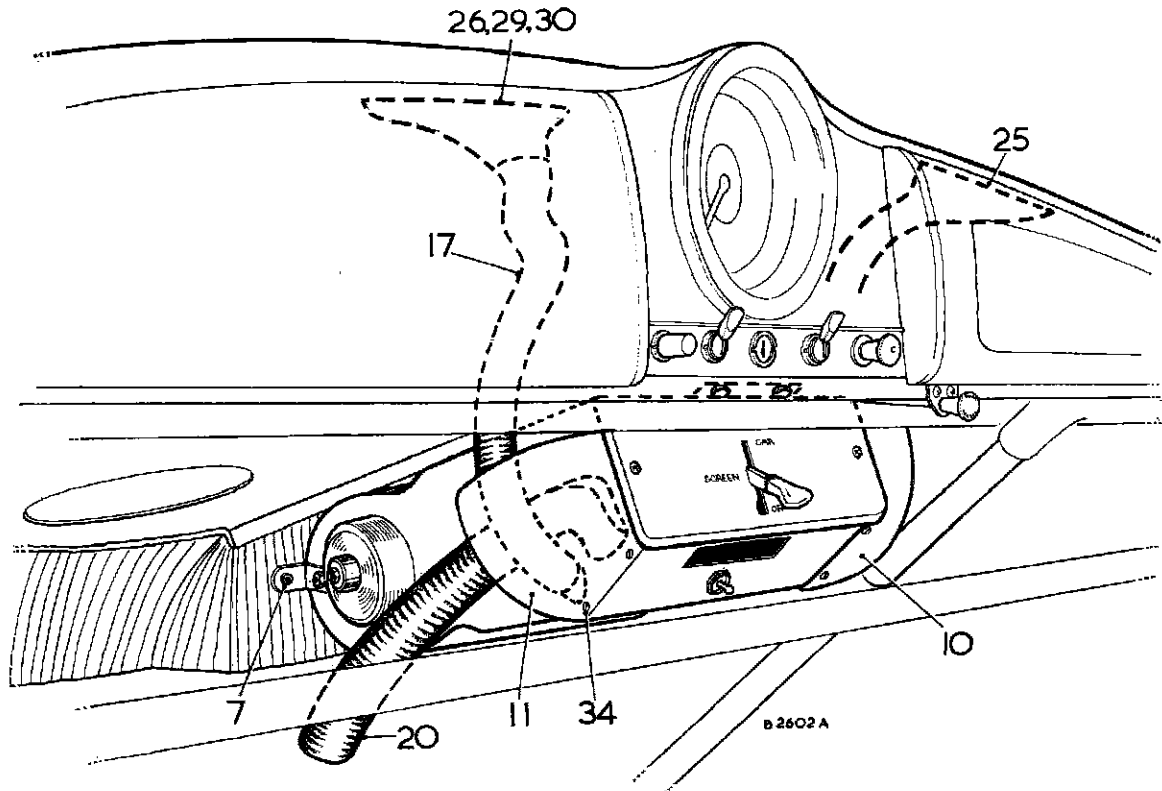

Fig. SS.4
NOTE.—The numbers referred to in the text of this Section are to be found in Figs. SS.4 to SS.7.
Push the large diameter air hose (12) over the heater air intake (Fig. SS.6) and secure it with a clip. Push the water hose (18) over the upper heater pipe, and the water hose (24) over the lower heater pipe and secure both hoses with clips (32). Assemble the mounting brackets (7) to the studs projecting from the heater side cover (Fig. SS.4) using the nuts and washers provided.
Position the heater below the fascia panel (see Figs. SS.4 and SS.6), bending the lip of the fascia forward to clear the heater panel and push the air and water hoses through the bulkhead grommets. Loosely fix the heater in position using No. 10 screws, plain washers, spring washers, and nuts (3), (4), (5), and (6), and secure the heater mounting brackets (7) to the weld-studs projecting from the battery box using nuts and spring washers (9) and (8).